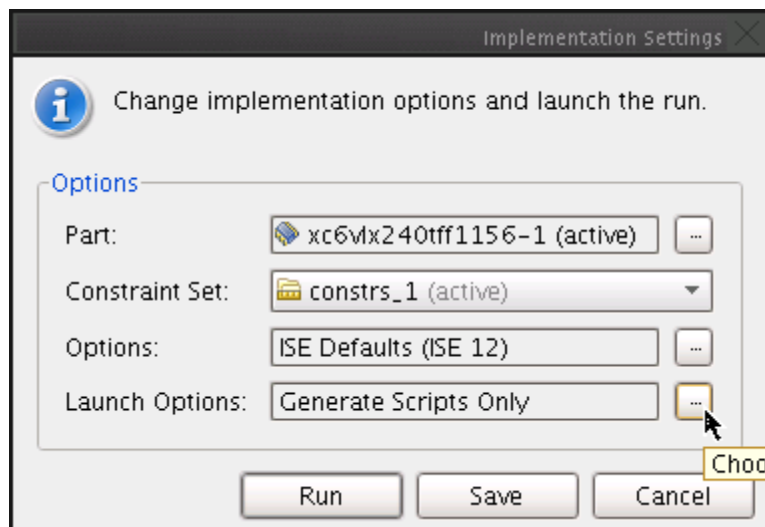

Figure 14: Launch Options
6. In the Implementation Setting dialog box, open the Launch Options dialog box by clicking on the button next to current launch options, as shown in Figure 14.